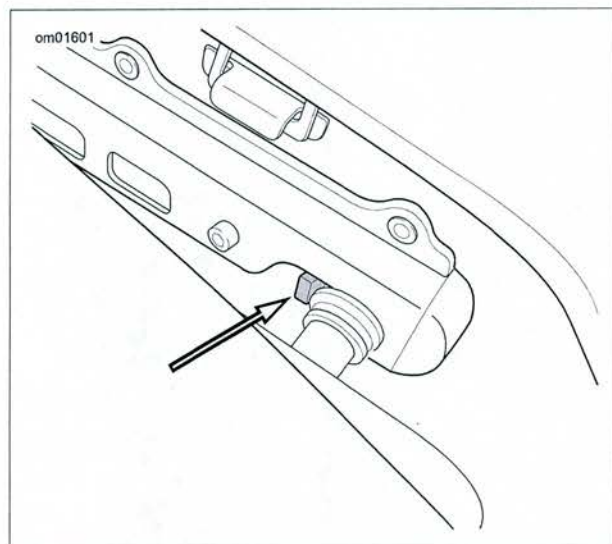

Figure 6. Saddlebag Bracket Latch Engaged
- See Figure 6. Check that the saddlebag is secure on all mounting points and that the bracket latch is engaged as shown.